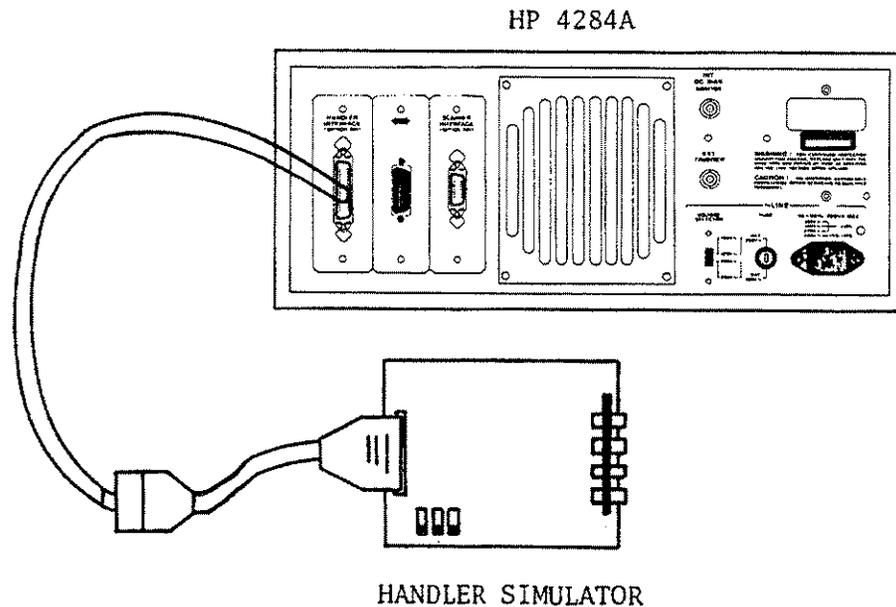

Figure 10-18. Handler Interface Function Test Set up
13. Confirm that the LEDs on the handler simulator board turn ON in accordance with the HP 4284A's output signals displayed on the LCD. The LEDs should turn ON in the sequence shown in Figure 10-18.